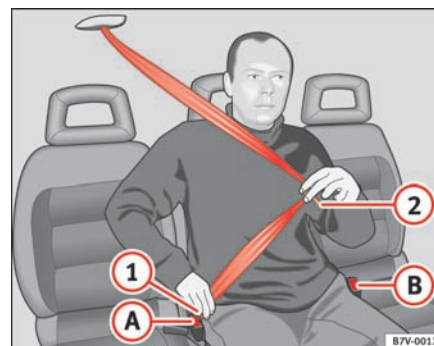

Fig. 11 Fastening the seat belt on the centre seat in the second row of seats
- Pull the belt so that the tongue ⇒ fig. 11 ① is pulled down.
- Insert the tongue ① into the buckle belonging to the seat ① and push it down until it is securely locked with an audible click.
- Use latch plate of the belt ② to pull the belt across your lap.
- Insert latch plate ② into the buckle belonging to seat ② and push it down until it is securely locked with an audible click.